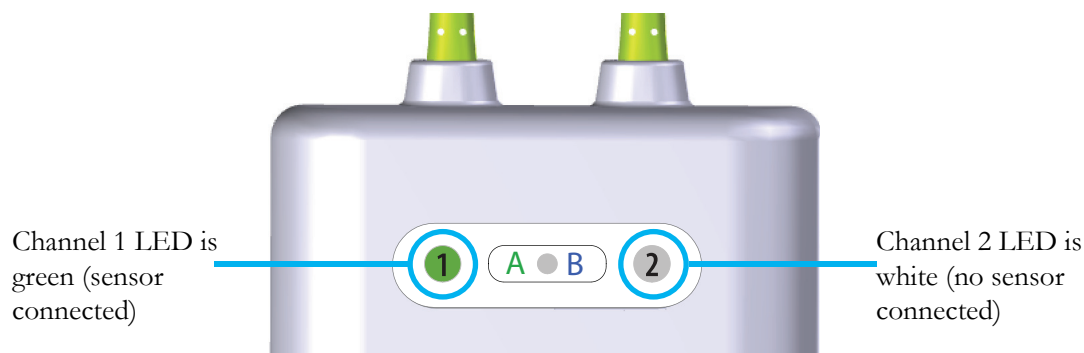

Figure 13-14 Connecting a sensor to the ForeSight module – channel status LED
- Verify that the channel status LED indicator on the ForeSight Elite module changes from white to green when the sensor is fully connected. See figure 13-14.